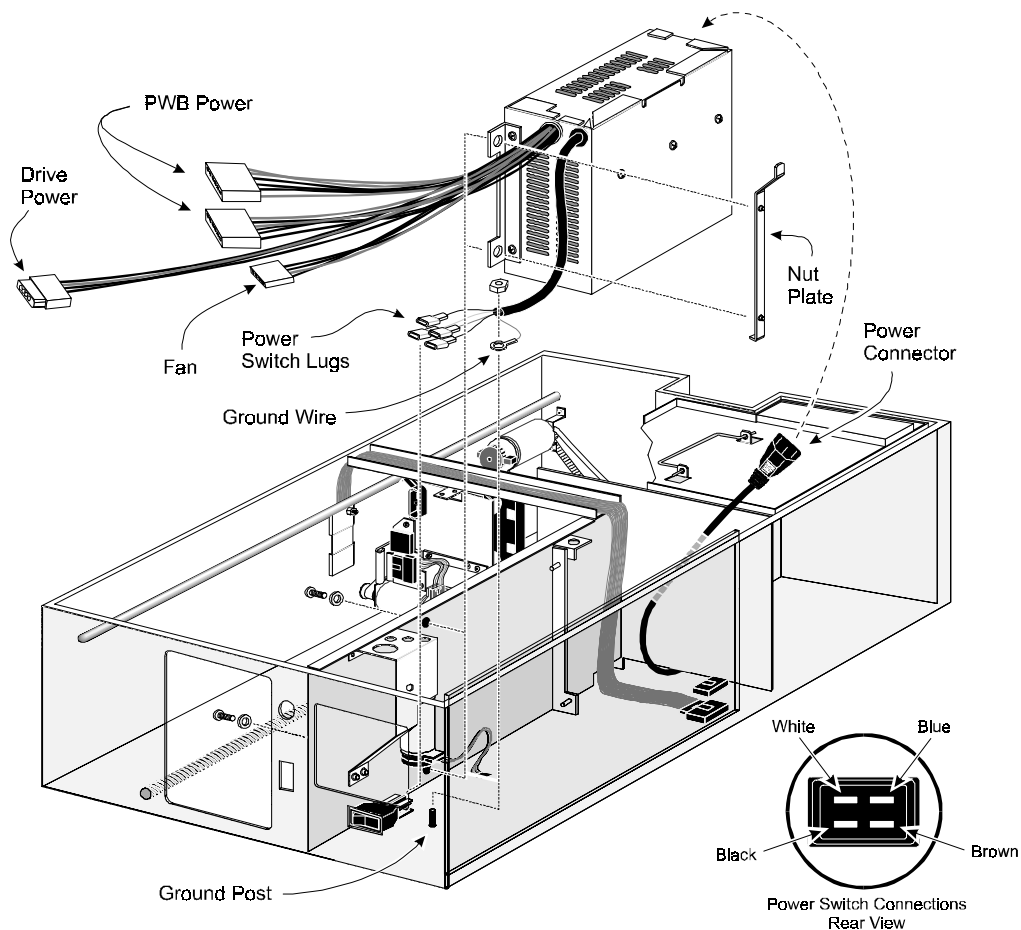

Figure 6-20 Power Supply Assembly, Early Production
Refer to Figure 6-20.
3. Connect the four spade lugs at the front panel AC power switch. Refer to the inset in Figure 6-20 for orientation of the colors.